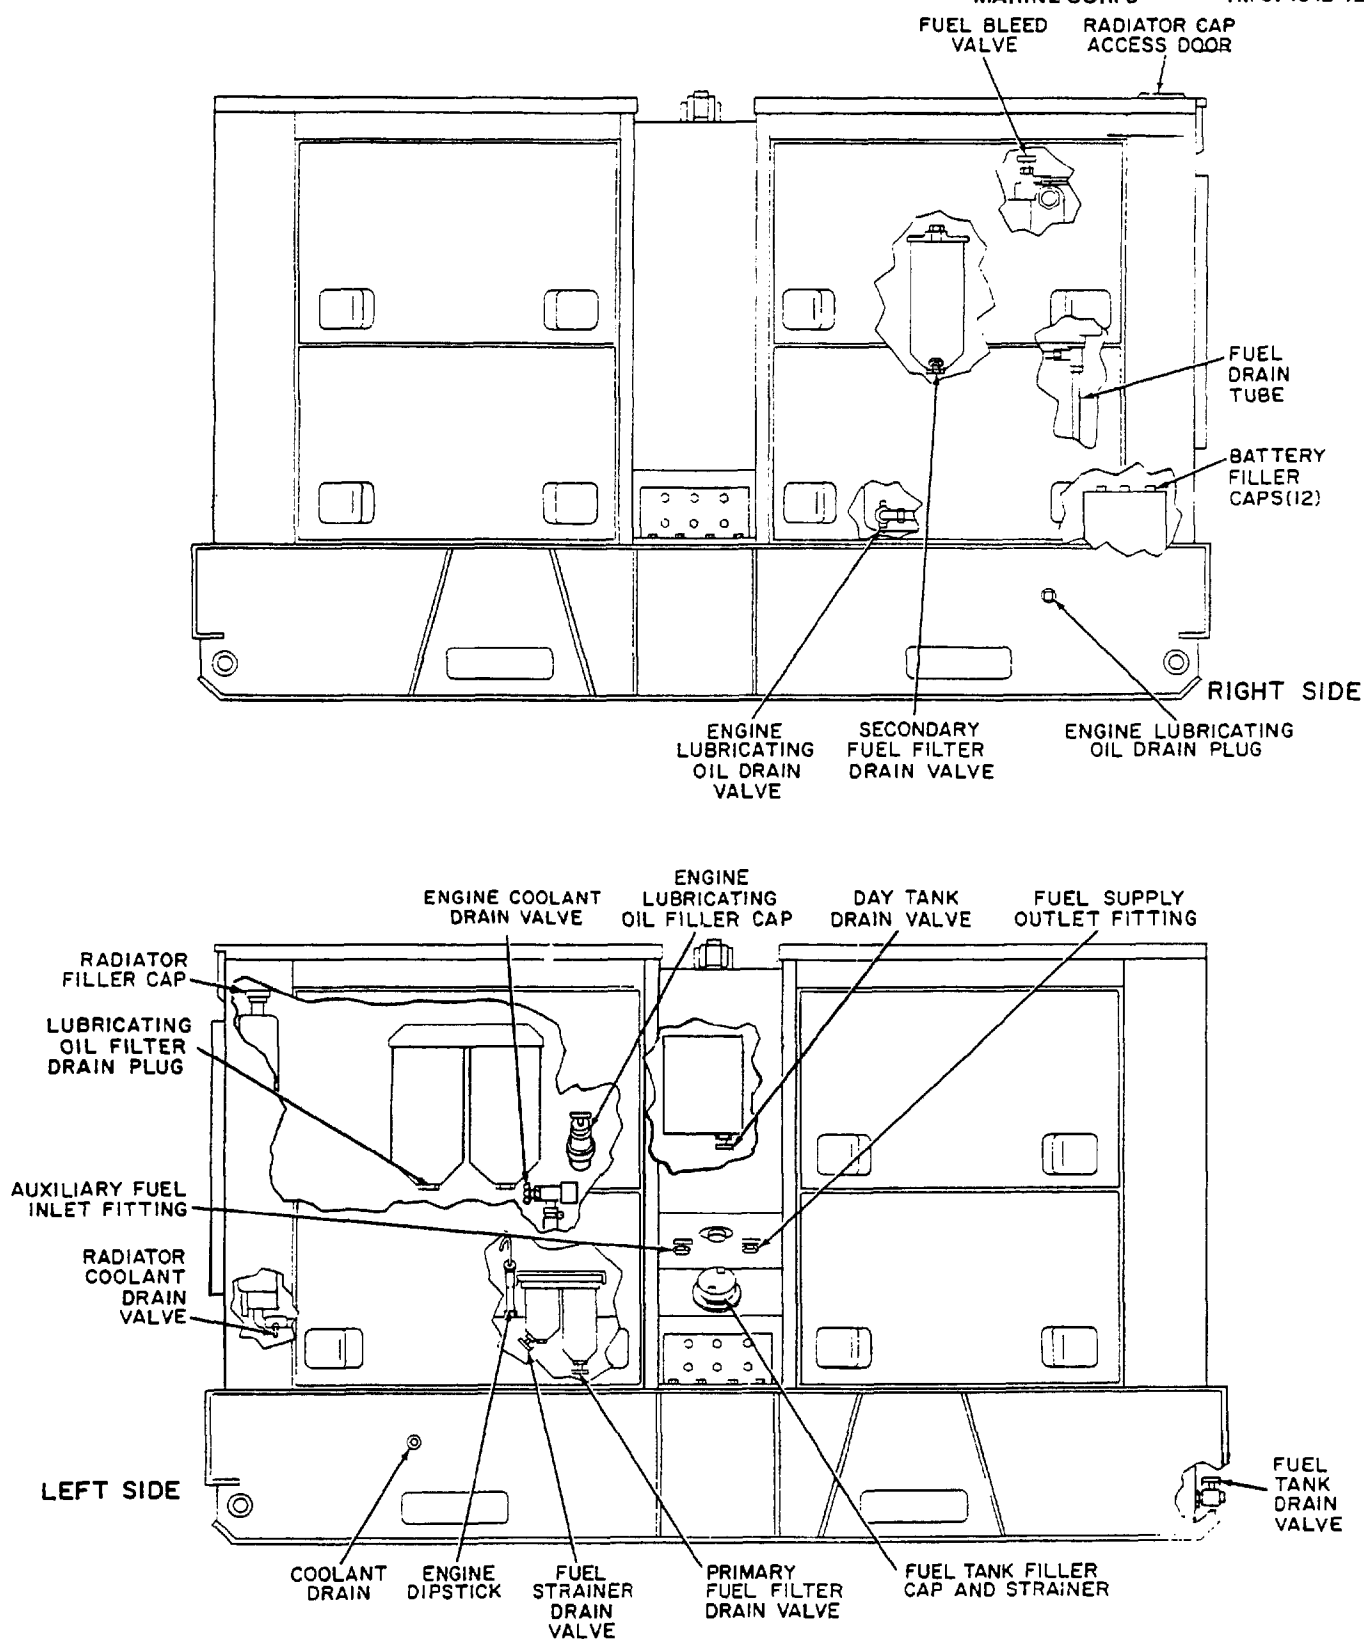

Figure 4-2. Location of Fill and Drain Points and Drain Valves
c. General Servicing. Remove coolant drain plug on skid base, make certain all drain cocks are closed, and other drain plugs are tight (see figure 4-2).